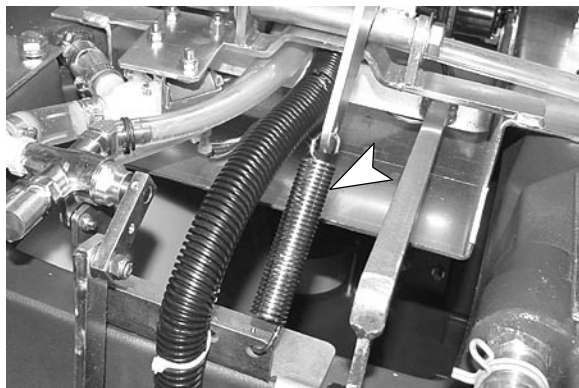

Fig. 8
4. Connect the spring to the valve mount bracket and to the squeegee mounting bracket as shown (Figure 8).